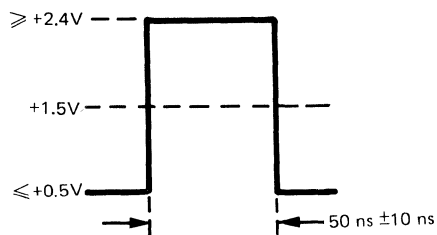

Figure 4-14. Trigger Output Pulse
- d. Press TRACE key and verify the presence of a positive pulse with a high level of greater than or equal to +2.4 volts and a low level of less than or equal to +0.5 volts. Pulse width at the 1.5 volt level should be 50 ns $\pm$ 10 ns (see figure 4-14).